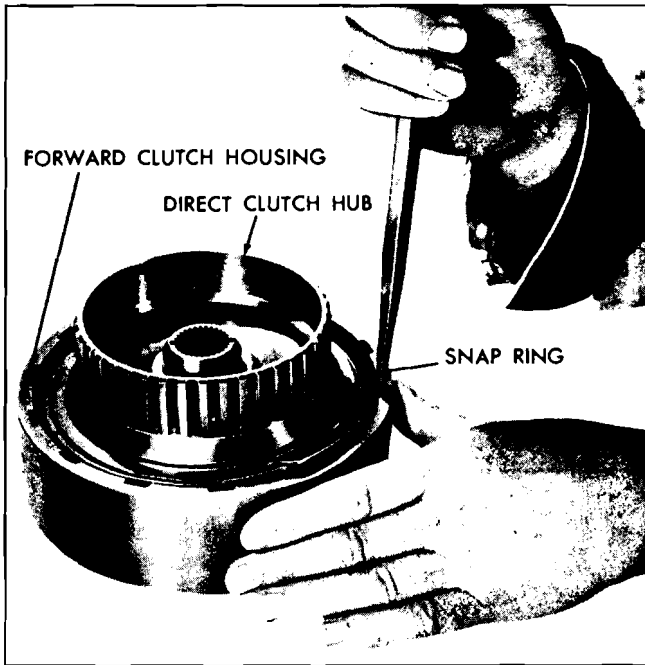

Fig. 7E-91 Installing Forward Clutch Housing to Direct Clutch Hub Snap Ring
11. Install direct clutch hub and retaining snap ring (Fig. 7E-91).
12. Place forward clutch housing on pump delivery sleeve and air check clutch operation (Fig. 7E-92).